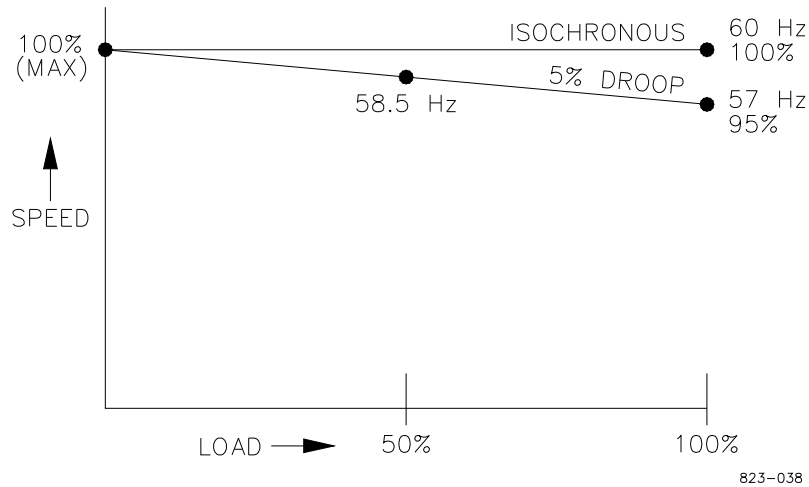

Figure 3-3. Droop Adjustment
*-If only 50% loading is possible, 58.5 Hz would indicate 5% droop. See Figure 3-3.